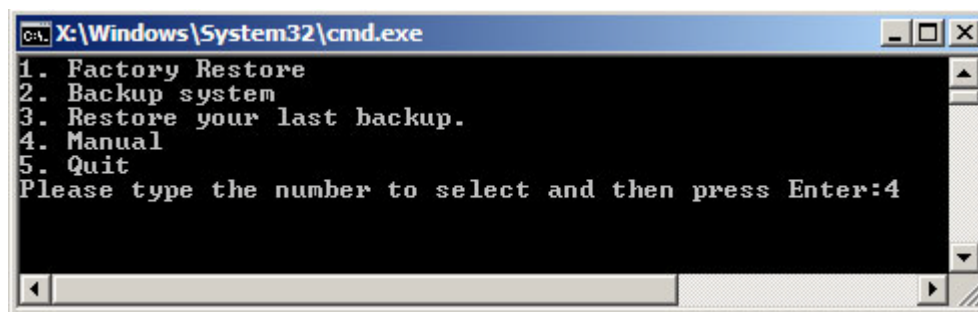

Figure C-11: Recovery Tool Menu
Step 2: The recovery tool menu appears. Type <**4**> and press <**Enter**>. (**Figure C-11**)